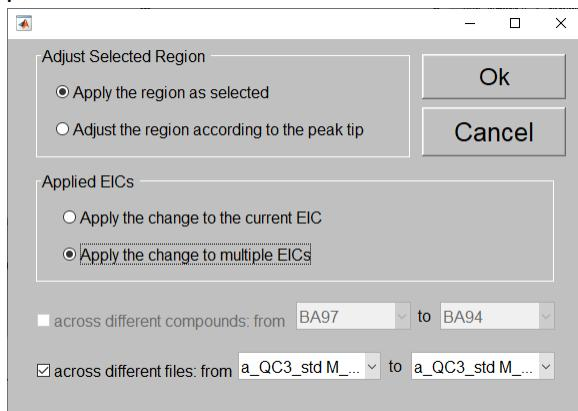

Figure 21. The window for the user to specify how, which samples, and which compounds the modification is to be applied.
At the same time as the peak area is updated, a window will appear for the user to select (1) whether the similar modification is applied to other samples, (2) whether the boundaries in other samples are defined by the same boundaries as in the current sample or by the peak tip in the corresponding sample using the same peak width, (3) the consecutive compounds where the same modification is to be applied, and (4) the consecutive samples where the same modification is to be applied, as shown in Figure 21. Figure 22 shows the modification in Figure 20 is applied to all samples.
Figure 22. The change of quantitation result when the modification is applied to the same compound in all samples. As shown in the right panel, the peak areas for the compound BA44 in different samples share the same RT range, as requested in Figure 21.